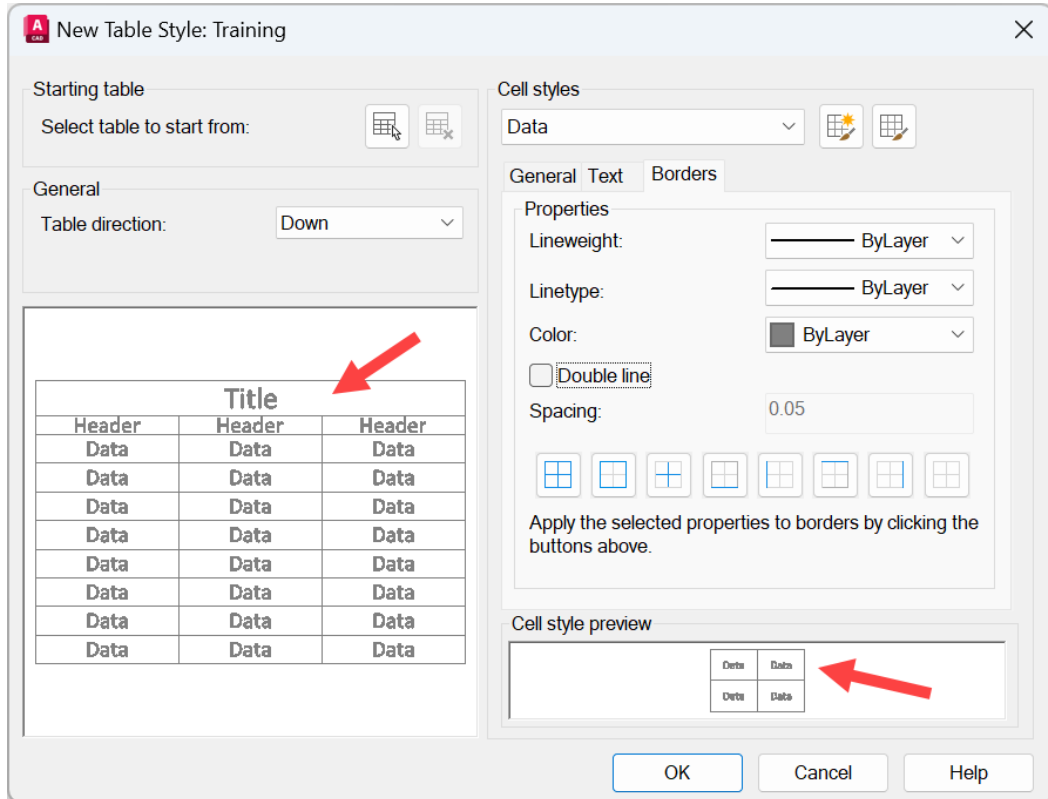

Figure 7.42: The new table style in preview with all properties in the New Table Style dialog box
21. Your table style should now look like *Figure 7.42* in the preview (arrowed on the left side) in the **New Table Style** dialog box.